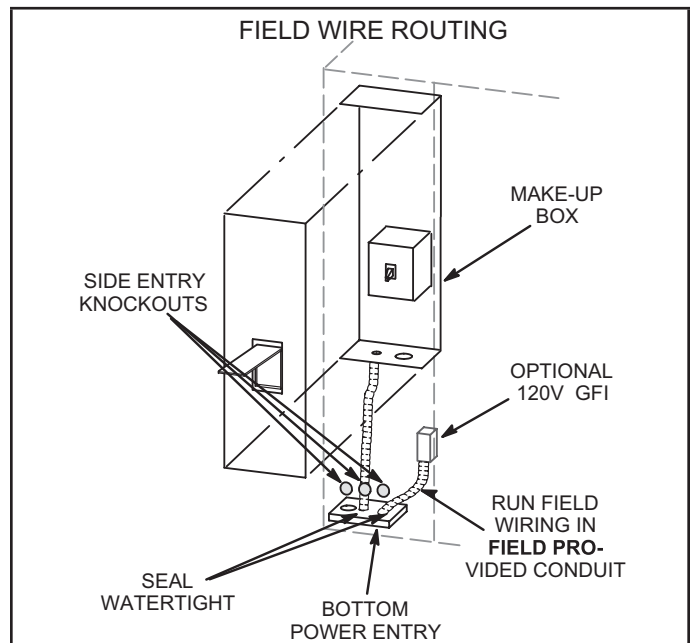

FIGURE 14
Route field wiring in conduit between bottom power entry disconnect. See FIGURE 14. This does not supersede local codes or authorities having jurisdiction.
- 3 - Connect separate 120v wiring to optional GFCI outlet. Route field wiring in conduit between bottom power entry and GFCI. See FIGURE 14.